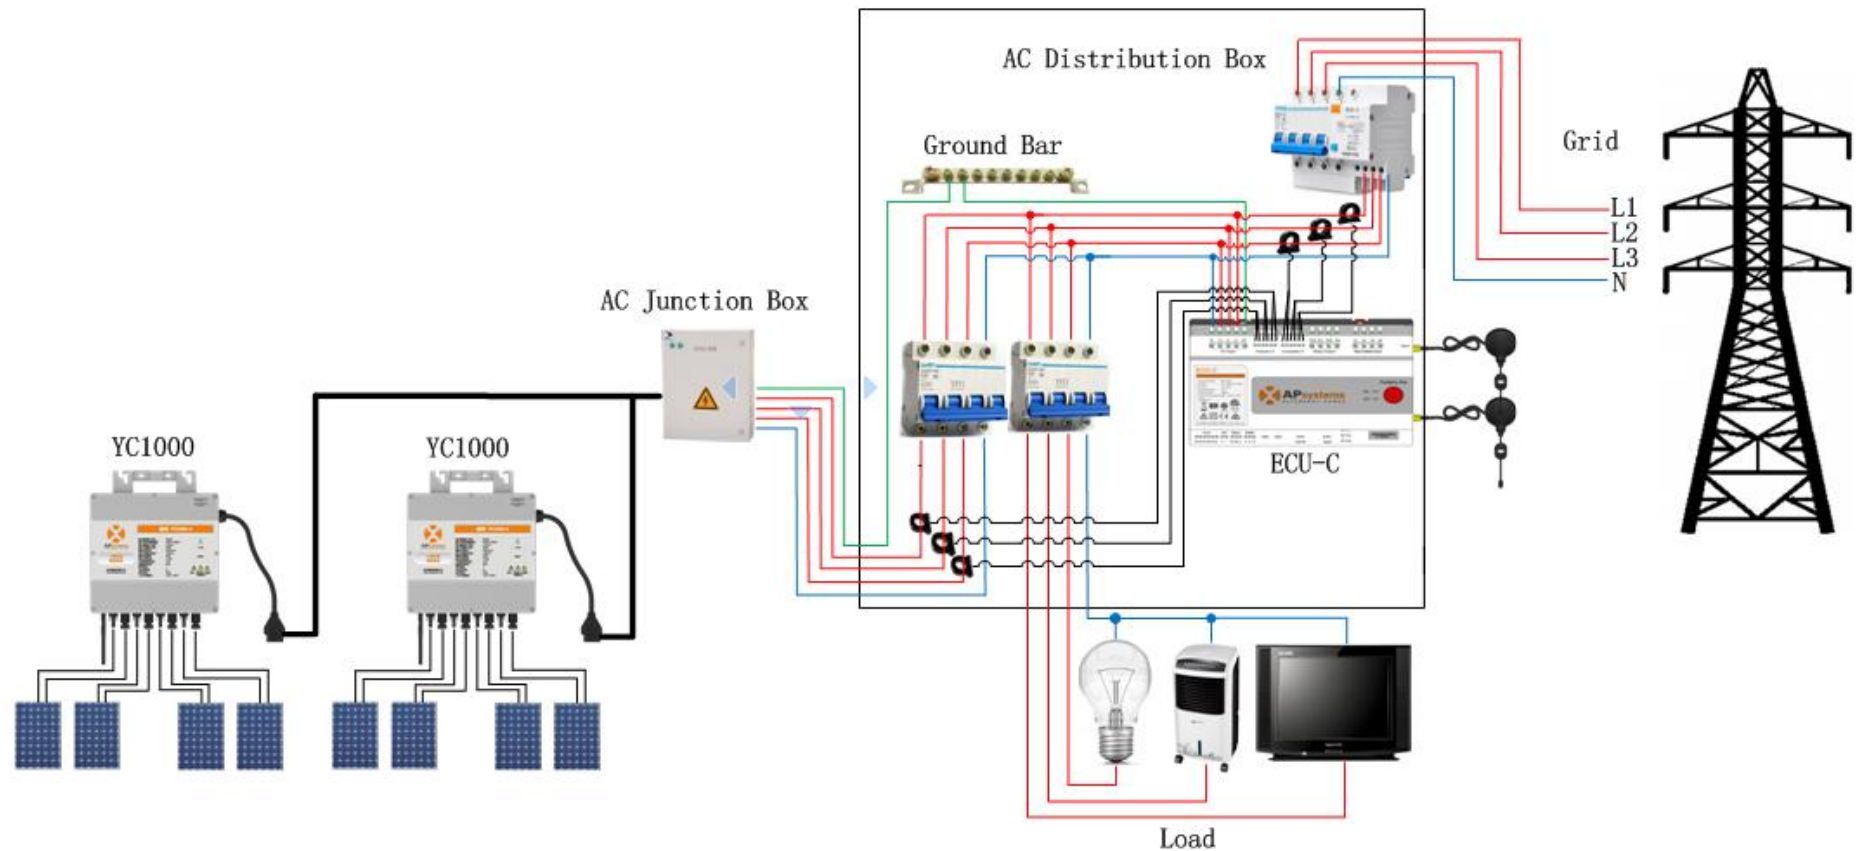

Figure1
APsystems YC1000 Anti-backflow System solutions schematic diagram, please refer to figure 1. By installing Current Transformer (CT) at the power generation side of PV system and the grid side, ECU-C could measure the generation&grid power and energy of each phase. To any phase, When the grid side current measured by the CT is negative, the electric current will flow back into the grid. Before the backflow occurs or the backflow power of any phase is greater than the power limit, ECU-C will shut all the inverters down through communication. According to the power calculation, under the condition of no backflow or backflow power of any phase smaller than the power limit, ECU-C will turn on inverters one by one as many as possible to guarantee the maximum power generation.